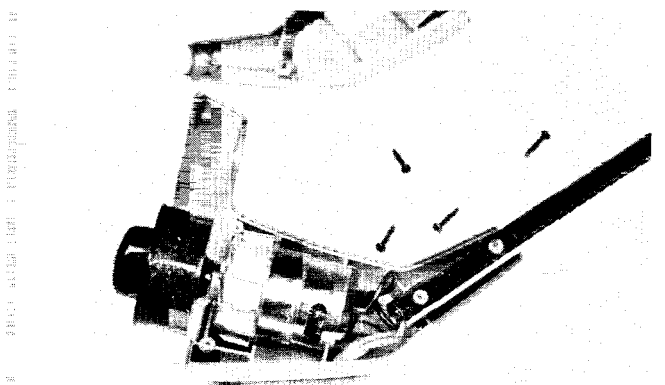

Figure 2.1
2.1 OPEN MOTOR HOUSING AND INSPECT MOTOR (fig. 2.1)